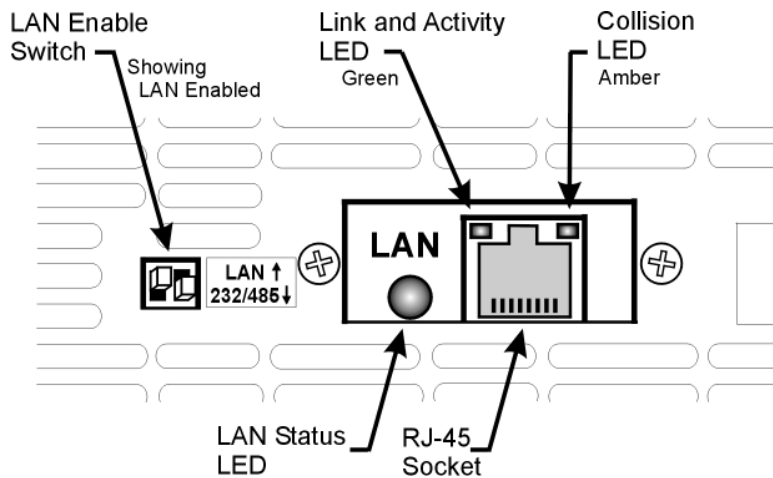

Figure 3. Rear Panel LAN Features
- Set the LAN card switch pin1 to DOWN (see Figure 3)
- B. Set the LAN card switch pin1 to UP (see Figure 3)